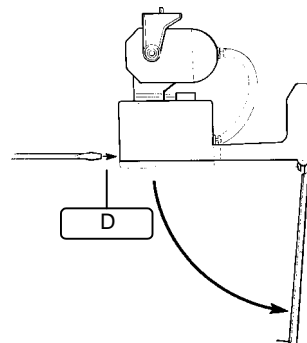

Fig.2
2. Open the cover by pushing slightly on the notch by means of a screwdriver **D** (Fig.2)
3. Release the bottom cover (Fig.2) and take the aluminium plate **B** out of the pan & tilt motor